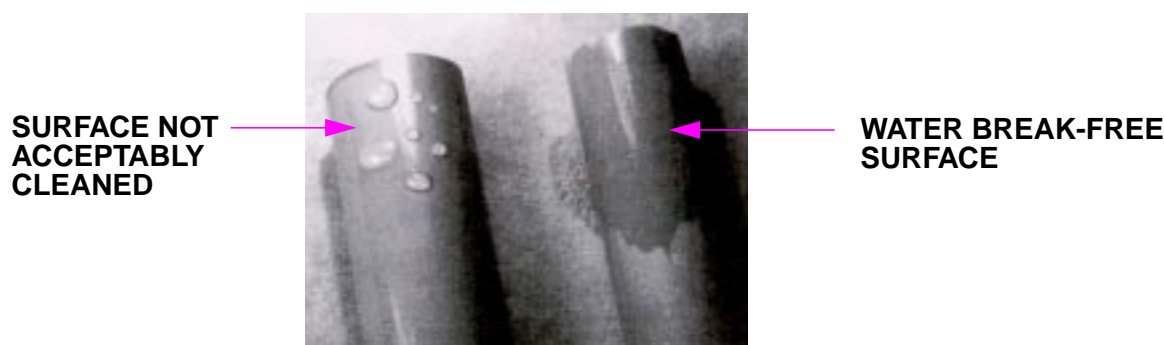

FIGURE 1 - WATER BREAK-FREE SURFACE
- Step 2. Check to ensure surface is water break-free (see Figure 1). Wipe surface with a clean lint-free cotton cloth to ensure complete removal of dislodged oxides.